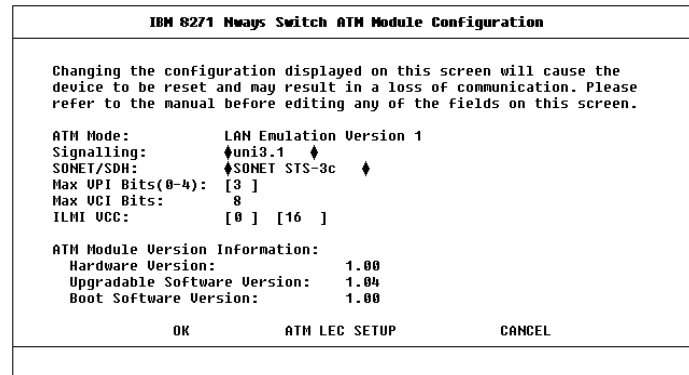

Figure 8-2 ATM Module Configuration Screen
An example of the ATM Module Configuration screen is shown in Figure 8-2.
- Select the ATM CONFIGURATION option from the Main Menu. The ATM Module Configuration screen is displayed, as shown in Figure 8-2 on page 8-2. Select the ATM LEC SETUP button.
- Alternatively, if you are already in the ATM Port Setup Screen, as described in “ATM Port Setup” on page 8-6, you can select the CONFIG button to display the ATM Module Configuration screen. An example of the ATM Configuration screen is shown in Figure 8-2 on page 8-2. Select the ATM LEC SETUP button.